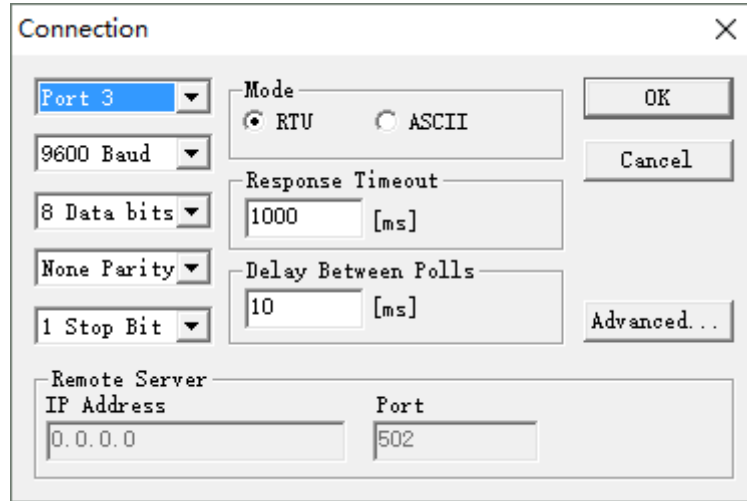

Figure 15 Connection Setting
(3) Click "Connect" in the menu and set the parameters as shown in Fig. 15. The port number is determined by the actual port used by the user.